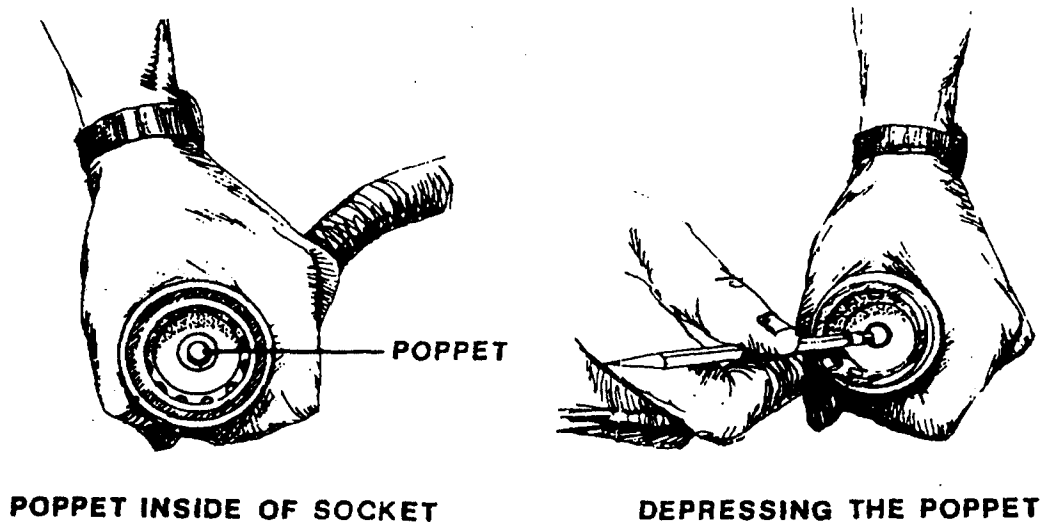

FIGURE 2-6. Draining Hose.
- i. The exhaust and return hoses must be drained before storing. This requires two people, one person at each end of the hose. In the center of each quick disconnect socket is a poppet (a spring loaded plug) (figure 2-6). Holding the poppets depressed with the eraser end of a pencil, the water drains from the hose when one hose end is below the rest of the hose. Drain all the water from the hoses, coil, and store in the 2151 sterilizer chamber.